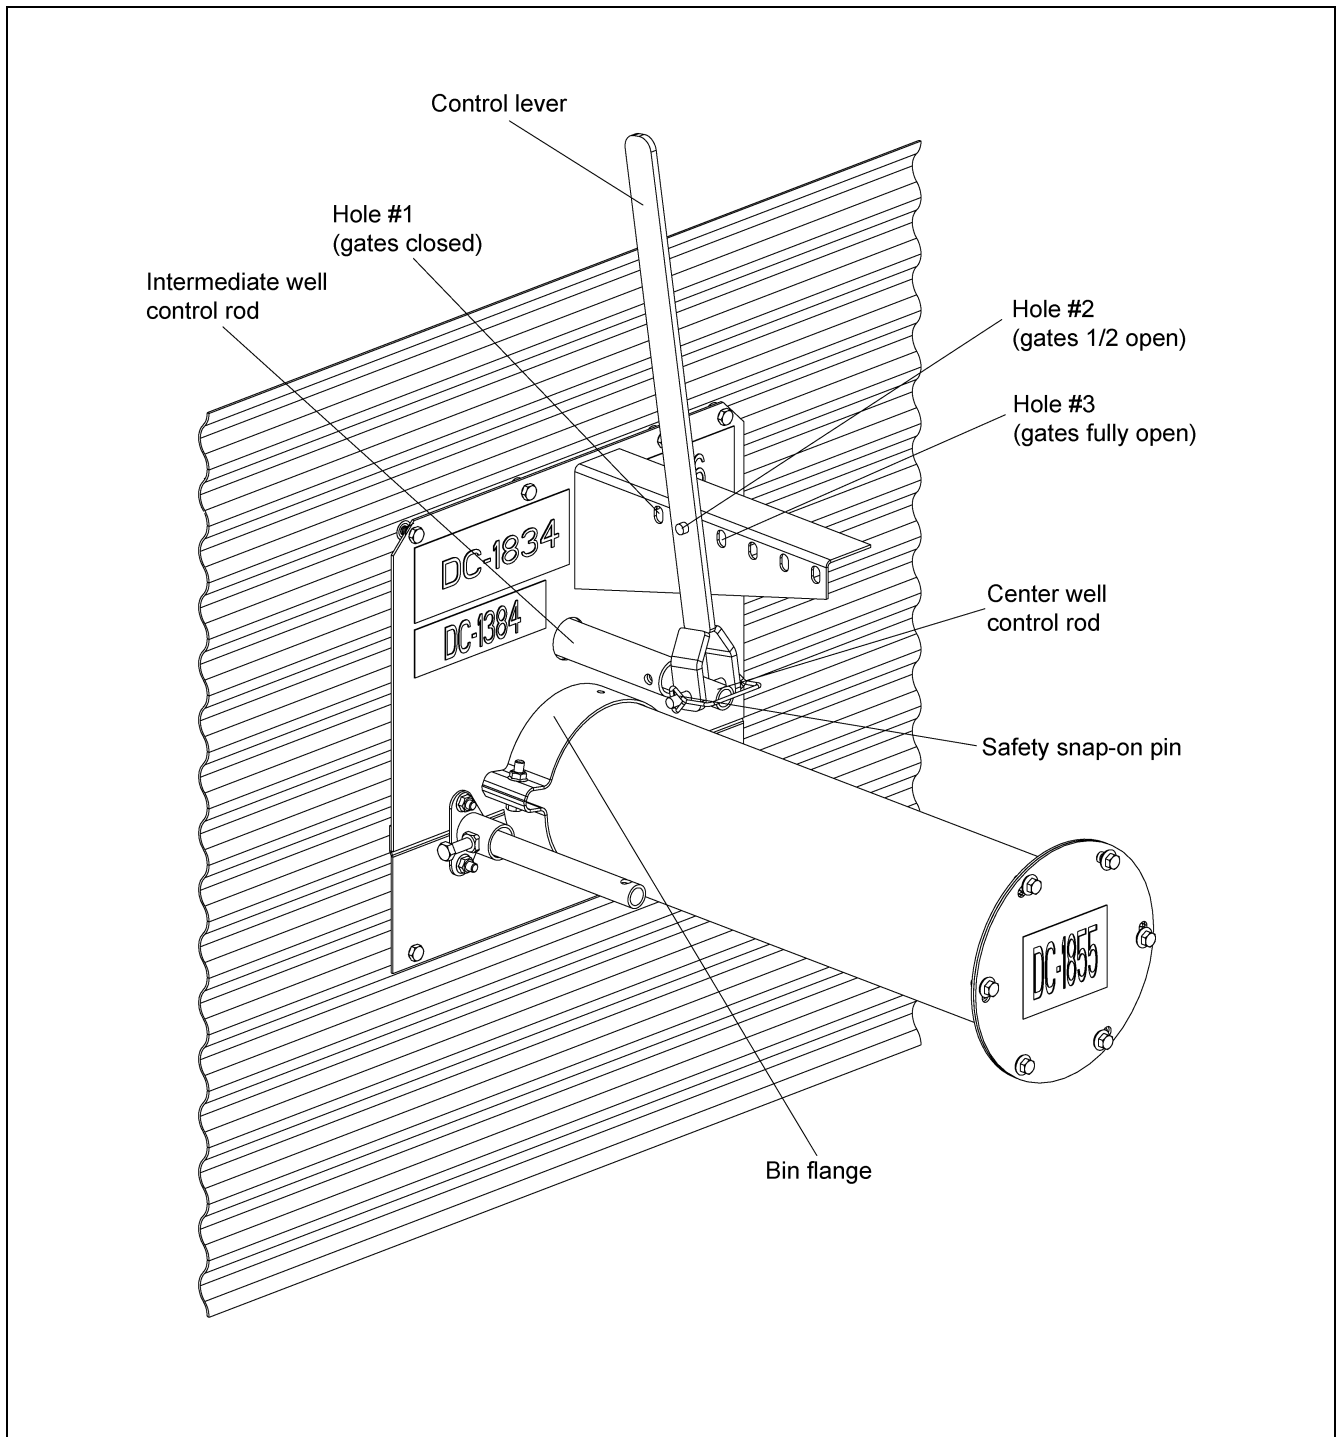

Figure 40 6" Systems
3. Place the safety snap-on pin through the center well control rod and the control lever as shown in *Figure 40*.